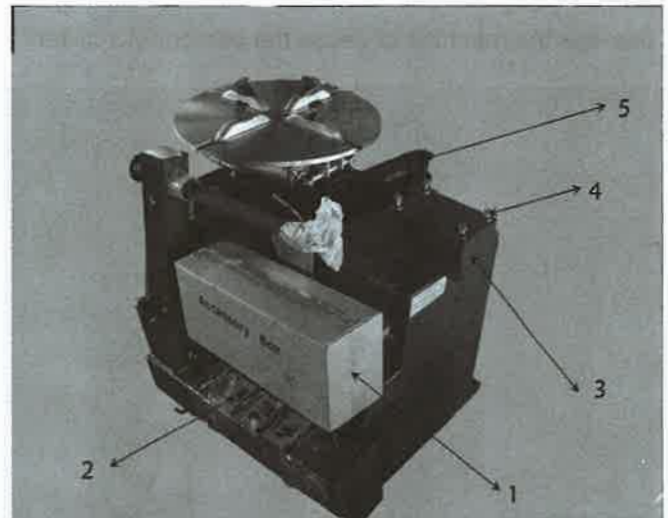

Fig 4-1
As shown in Fig 4-1, unpack the package box and take out the accessories (1) bead breaker arm (5) and column assembly (2) and fix the body as Fig4. Unscrew the hex screw (4) on the body and elastic washer and flat washer.
4.2.6 Position the column assembly on the body with the warning stick facing toward. Retighten the bolt, flat washer and elastic washer removed shown in Fig 4-1 evenly. The tighten torque is 70 N·M (Fig 4-2) and use the torque wrench to fix.